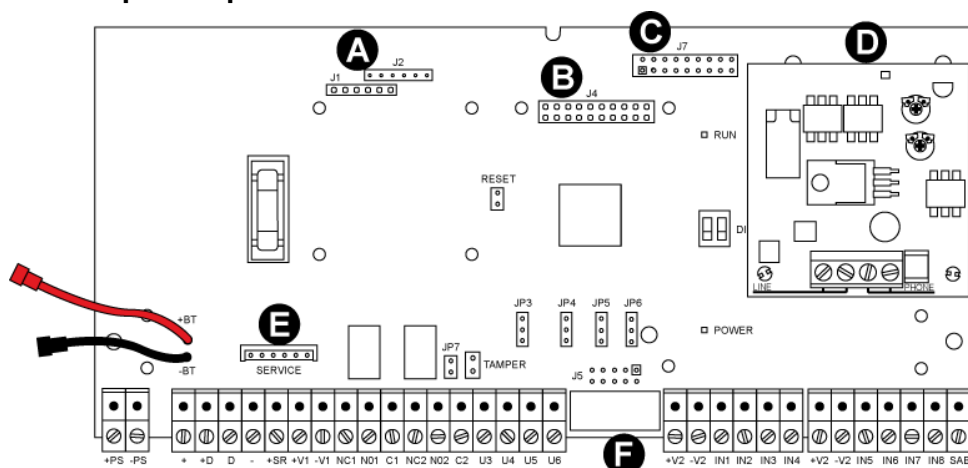

Figure 12 – Connectors for optional parts
- Insert the comb connector in the motherboard holes corresponding to the connector C in figure 12.
Connect the IT-USB kit to the specific motherboard connector (figure 12, A)
In order to connect the IT-USB/KEY interface it is necessary to remove the two jumpers present in the motherboard connector (figure 12, A).